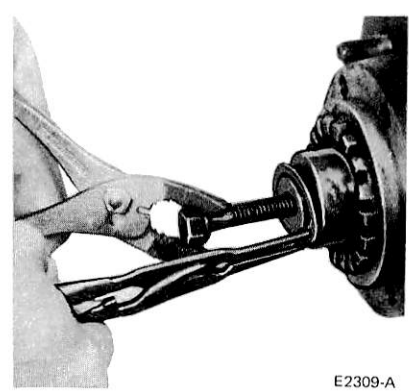

FIG. 17 Snap Ring Installation
2. Install a new snap ring. If necessary, pull out axle shaft with capscrew to allow clearance in groove for snap ring on axle shaft. Be sure snap ring is fully seated (Fig. 17).